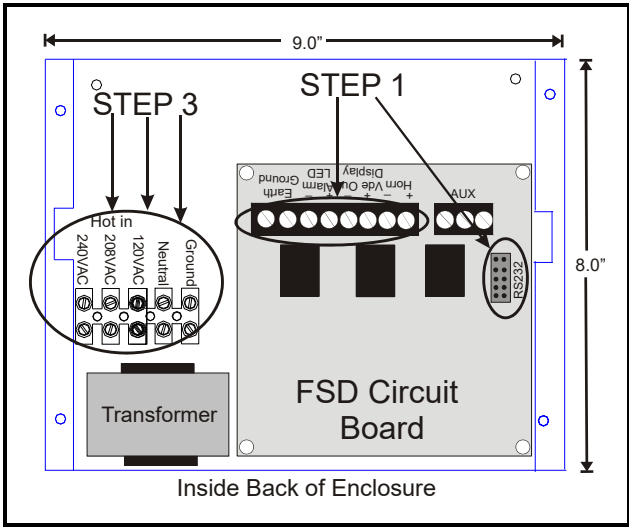

Figure 2-1 - 8-Pin Connector and RS232 Cable Connections
1. Step 1: Using the four screws on the front of the mounting plate, unscrew the cover of the FSD and remove, exposing the back of the enclosure. Once the top has been separated from the back of the enclosure, unplug the 8-pin connector and RS232 cable (**Step 1 of Figure 2-1**) from the circuit board (P/N 537-1100).
3. Step 3: Once the unit has been mounted, depending on the voltage input, wire either 120VAC, 208VAC, or 240VAC Hot leg to the corresponding terminal block label. Then wire the Neutral or L2 leg to the terminal block labeled Neutral. Wire Ground to Ground as indicated by **Step 3 of Figure 2-1**.